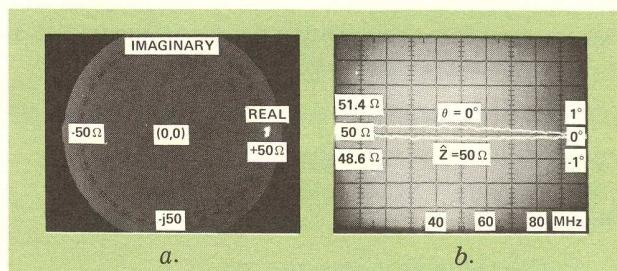
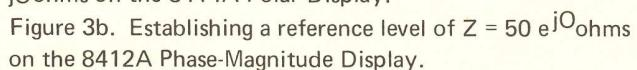

Figure 3a. Establishing a reference level of $Z = 50$ ohms + $j0$ ohms on the 8414A Polar Display.
Figure 3b. Establishing a reference level of $Z = 50 e^{j0}$ ohms on the 8412A Phase-Magnitude Display.
The basic technique is to establish a reference value of impedance on the display, then to compare the unknown impedance with the reference value. For example, a precision 50-ohm termination supplied with the Network Analyzer may be used to establish a full-scale, 0-degree reference on the 8414A Polar Display (Figure 3a) or a 50 Ω , 0-degree level on the 8412A Phase-Magnitude Display (Figure 3b).
- a. Adjust the magnitude and phase traces for a mid-screen position by using the DISPLAY REFERENCE and AMPLITUDE VERNIER controls for magnitude and the PHASE and PHASE VERNIER controls for phase (Figure 3b). By increasing resolution, you may determine this position precisely.) The PHASE OFFSET should be set at 0 for a resistor.
- b. Position the trace at the outer edge of the display at 0 degrees (Figure 3a) by using the 8407A DISPLAY REFERENCE and AMPLITUDE VERNIER controls for magnitude and PHASE VERNIER control for phase.